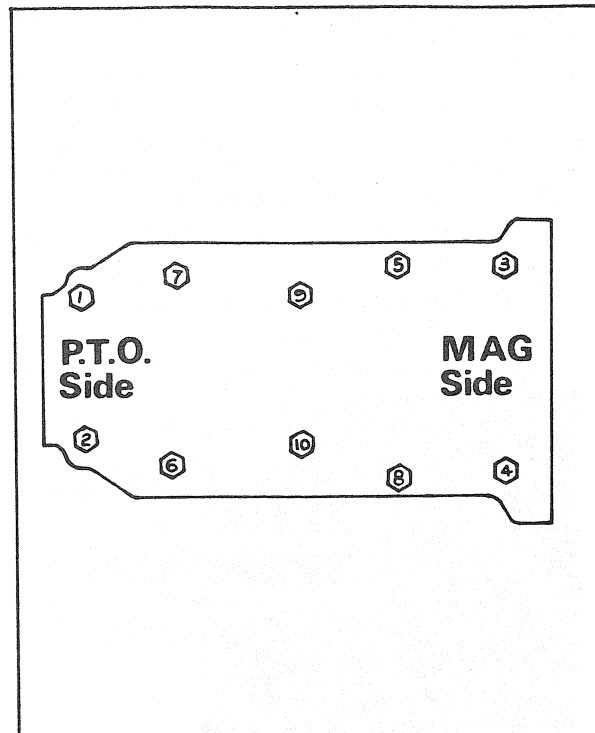

FIGURE 31
- Torque to 5 ft/lb. according to the following figure (fig. 31).